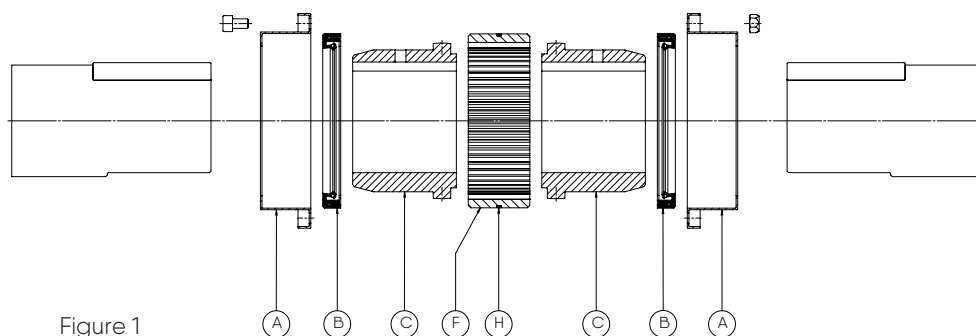

Figure 1
- 4.1.4. Install hubs C on their respective shafts. If needed, for keyway assembly, uniformly heat hubs C (max 120°C) to install them easily on the shaft, in this case, avoid any contact between the hub C and seal B. Hub faces have to be flush with shaft end. In case of doubt, please consult us. Introduce setscrew on key with Loctite and tighten properly. In case of interference fit, refer to ESCO for proper instructions. For the assembly of the type NFS, see figure 1 or 2.